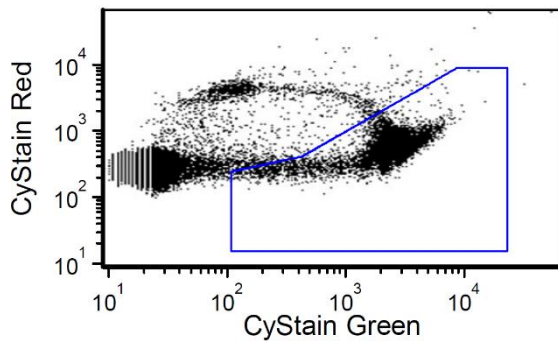
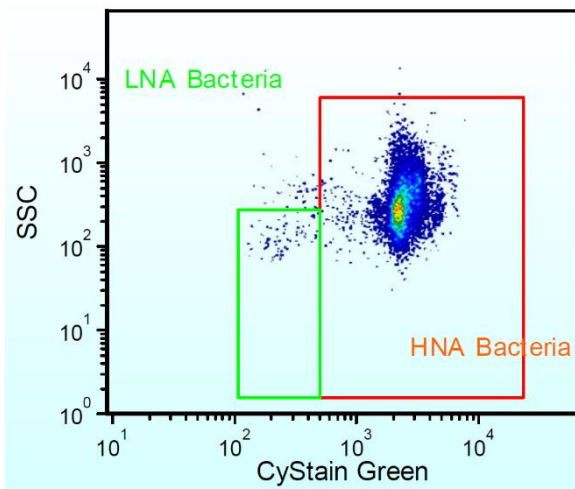

Fig. 1: CyStain™ Green vs. CyStain™ Red with “PG1”
Fig. 2: “PG2” LNA bacteria and “PG3” HNA bacteria
- Count viable bacterial cells in "PG1" (Fig. 1), Count viable LNA bacterial cells in "PG2" (Fig. 2), Count viable HNA bacterial cells in "PG3" (Fig. 2).